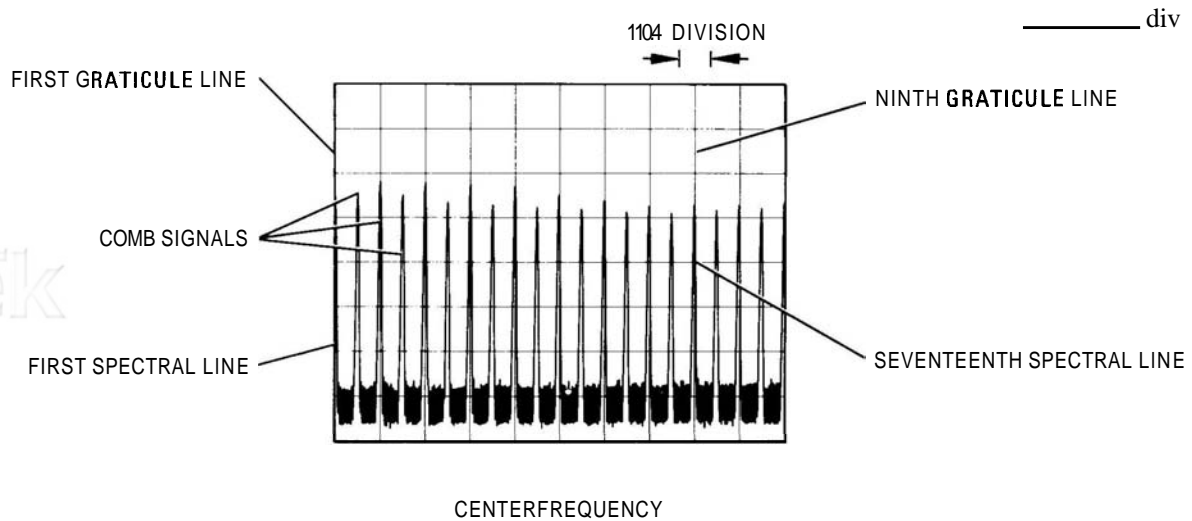

FIGURE 4-2. FREQUENCY SPAN ACCURACY MEASUREMENT FOR SEVENTEENTH SPECTRAL LINE
- Adjust spectrum analyzer TUNING control to position one spectral line (from comb generator) at first graticule line (left-hand edge of display). Measure the error between 17th spectral line and 9th graticule line as shown in Figure 4-2. Error should be no greater than ± 0.4 division.